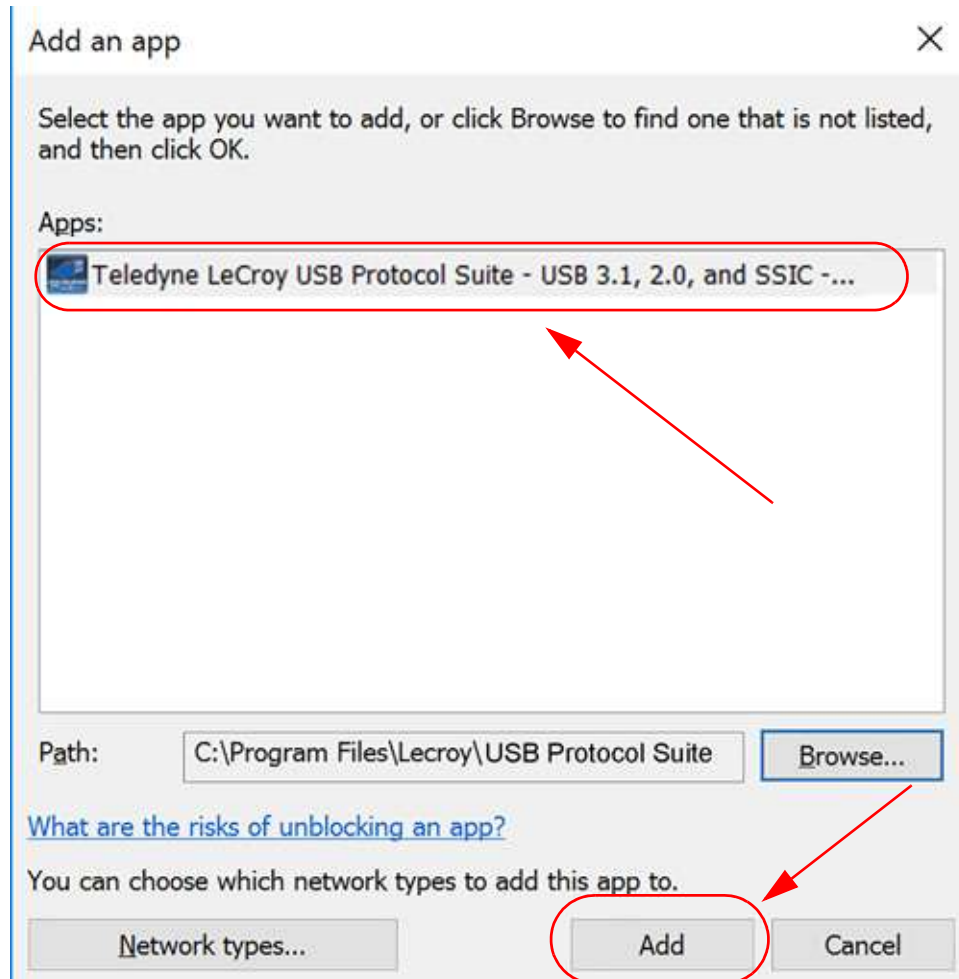

Figure 3.8: Windows Server 2016/2019: Add an Application to the Firewall Exceptions
9. If necessary, select the Teledyne LeCroy USB Protocol Suite you want to add. Then click on “ADD”, this will add the Teledyne LeCroy USB Protocol Suite software to the Apps allowed through the Firewall. See Figure 3.8.